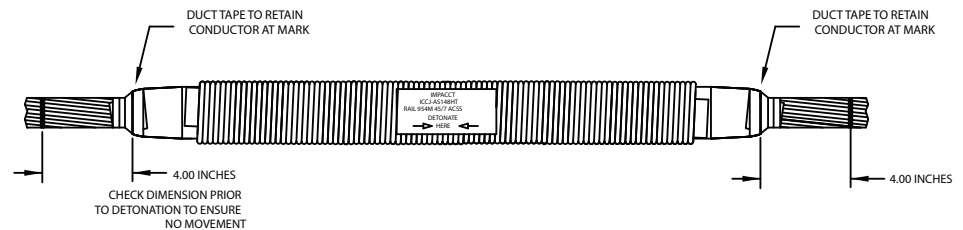

Fig. 6
6. The "Core Grip" Assembly must remain tight against the aluminum strands prior to detonation. (Reference: Step 4.) To maintain a tight assembly: use "Duct Tape" to secure. Wrap onto end of barrel, then conductor, to hold conductor tight within assembly. See Fig. 6. Measure from end of Joint to 4-inch "Mark" to ensure the conductor has not pulled out.